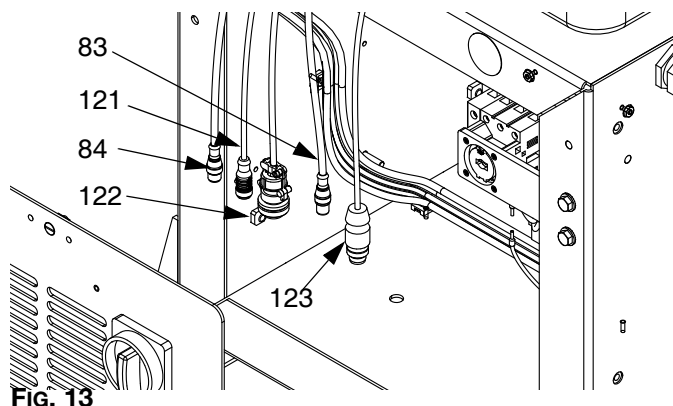

FIG. 13
1. Connect the applicator end of the proximity sensor cable (418) to the dispense proximity sensor on the L-Head.
2. Connect the applicator end of the proximity sensor cable (419) to the cleanout proximity sensor on the L-Head.
3. Connect the other end of the proximity sensor cable (418) to the dispense proximity sensor cable (122), labeled A1, on the AC power pack. See FIG. 13.
4. Connect the other end of the proximity sensor cable (419) to the cleanout proximity sensor pigtail (123), labeled 2C, on the AC power pack. See FIG. 13.
5. Connect the termination connector (425) to the connector (121), labeled 5A. Feed the connector (425) and cables (121, 84) into the base cube and secure.